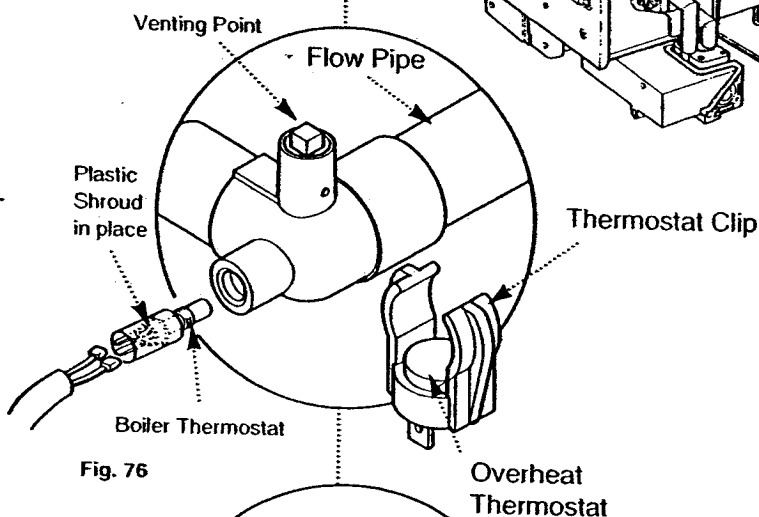

Fig. 76
3. The top flow connection incorporates the boiler thermostat, overheat thermostat and a venting point (Fig. 76).
5. Connect the two electrical tags of the thermostat lead to the connections on the thermostat - either wire can be connected onto either connection - there is no polarity (Fig. 76).
6. Remove the overheat thermostat and clip from the plastic kit bag. Engage the thermostat in the clip as shown (Fig. 76). Prise the clip over the flow pipe as near to the vent as possible (Fig. 76 & 77).